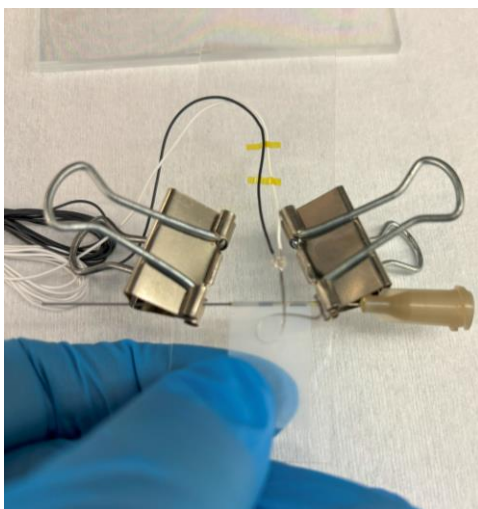

Figure 5-7: Fixtured device clamped on both sides of the mandrel while Teflon film is gently being pulled to remove any slack.
13. Remove the clip holding the Teflon film, and gently pull the film taut by hand to remove any slack that was introduced during the clamping process (see Figure 5-7)